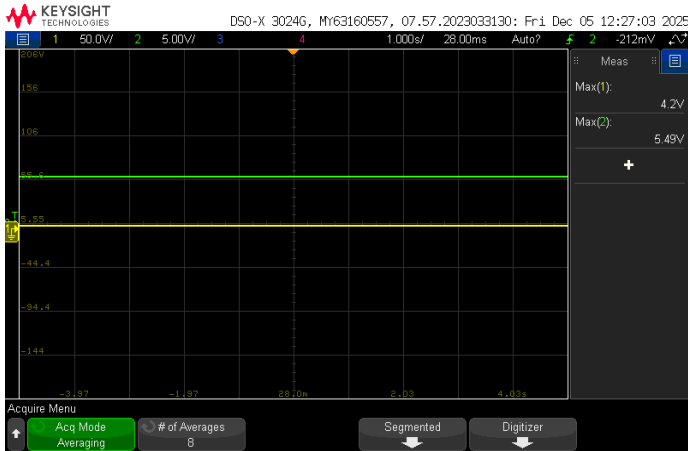
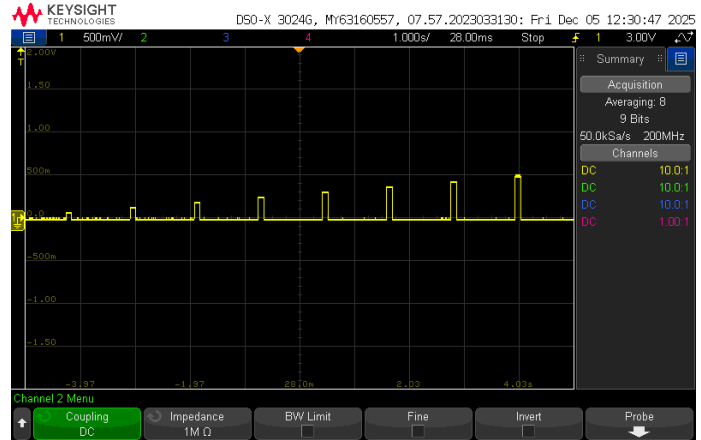

Figure 1 Power Rails (5V and 5- VRM).
Figure 2 DAC signal
- Figure 1 indicates 5V (Yellow) and 5V -5VVRM (Green) measured at TP3/+5V and TP5 respectively. Figure 2 shows DAC signal when the code is running.